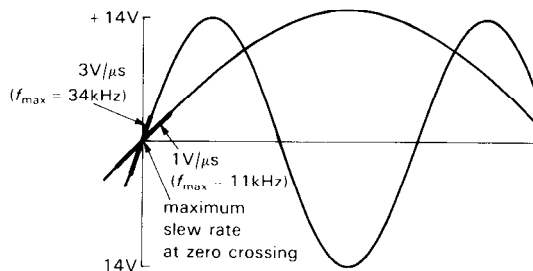

Figure 4.29. Slew-rate-induced distortion.
The op-amp "compensation" capacitance (discussed further in Section 4.32) and small internal drive currents act together to limit the rate at which the output can change, even when a large input unbalance occurs. This limiting speed is usually specified as *slew rate* or *slewing rate* (SR). For the 411 it is $15\text{V}/\mu\text{s}$; low-power op-amps typically have slew rates less than $1\text{V}/\mu\text{s}$, while a high-speed op-amp might slew at $100\text{V}/\mu\text{s}$, and the LH0063C "damn fast buffer" slews at $6000\text{V}/\mu\text{s}$. The slew rate limits the amplitude of an undistorted sine-wave output swing above some critical frequency (the frequency at which the full supply swing requires the maximum slew rate of the op-amp, Fig. 4.29), thus